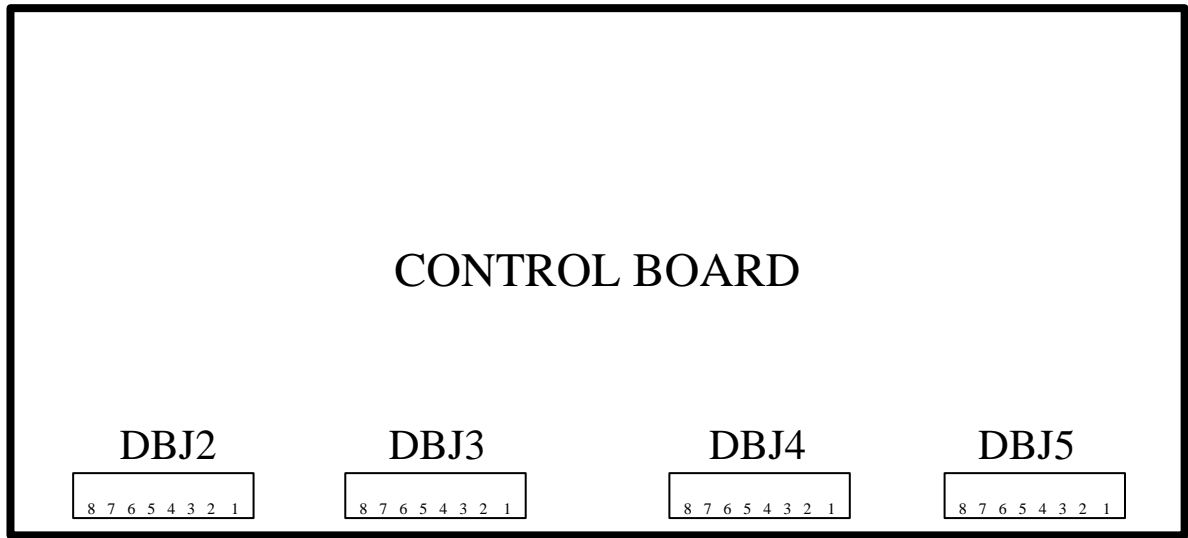

Figure 6
NOTE: ALL PIN OUTS ON THE DBJ CONNECTORS OF THE CONTROL BOARD ARE COUNTED FROM RIGHT TO LEFT. PIN 1 IS THE PIN ON FAR RIGHT OF EACH CONNECTOR AND PIN 8 IS THE PIN ON THE FAR LEFT OF EACH CONNECTOR. SEE FIGURE 6 ABOVE
- 1.3 Open the Control Console. Measure the AC voltage between DBJ3 pin 1 of the Control Board (*see Figure 6 – page V-2*) and the neutral (white wire) Barrier Strip. Is there 120 VAC?
- 2.3 Open the Control Console. Measure the AC voltage between DBJ2 pin 1 of the Control Board (*see Figure 6 – page V-2*) and the neutral (white wire) Barrier Strip. Is there 120 VAC? *Note: Still in Recirculate Mode (LED on – not flashing).*
- 3.6 With the Dissolution Tank empty and the power ON, open the Control Console and measure the DC voltage between pins 1 and 2 on the DBJ4 connector of the Control Board. *See Figure 6 – page V-2.* Is there approximately 12 VDC?
- 3.7 With the Dissolution Tank empty and the power ON, open the Control Console and measure the DC voltage between pins 4 and 5 (white and black wires) on the DBJ5 connector of the Control Board. *See Figure 6 – page V-2.* Is there approximately 12 VDC?
- 3.8 With the Dissolution Tank empty and the power ON, open the Control Console and measure the DC voltage between pins 1 and 2 (black and white wires) on the DBJ5 connector of the Control Board. *See Figure 6 – page V-2.* Is there approximately 12 VDC?
- 3.11 With water above the 25 Gallon Sensor and the power turned ON, open the Control Console and measure the DC voltage between pins 1 and 2 (white and black wires) of the DBJ4 connector. *See Figure 6 – page V-2.* Is there approximately 12 VDC?
- 3.15 With water above the Mid-Level Sensor and the power ON, open the Control Console and measure the DC voltage between pins 4 and 5 (white and black wires) of the DBJ5 connector of the Control Board. *See Figure 6 page V-2.* Is there approximately 12 VDC?
- 3.18 With water touching the Final Fill Sensor and the power ON, open the Control Console and measure the DC voltage between pins 1 and 2 (black and white wires) of the DBJ5 connector on the Control Board. *See Figure 6 on page V-2.* Is there approximately 12 VDC?